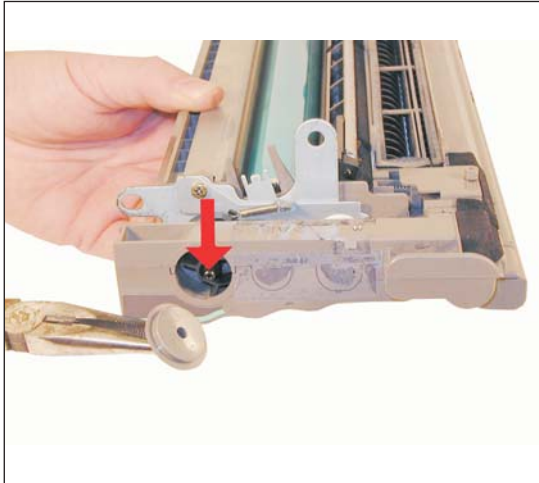

Figure 47
35) Install the plug on the small auger covers. Make sure that the center of the plug fits over the long auger shaft. See Figure 47